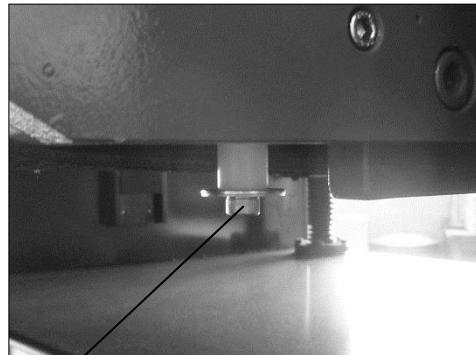

Figure 12
5. A positioning wheel (Figure 12) has been provided on the right and left sides of the conveyor belt to limit the belt tracking. When